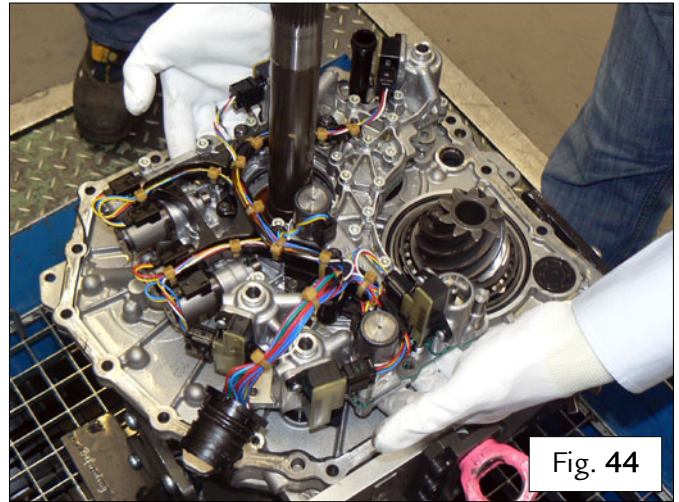

Fig. 44
- Fit the new SAP in the relative seat – Fig. 44.